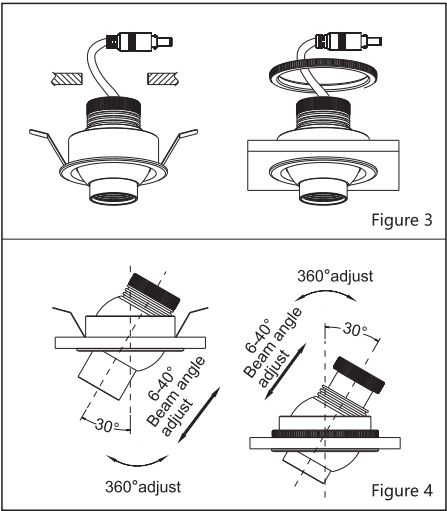

Figure 4
- 3. Fixture Angle Adjustment.(Figure 4)